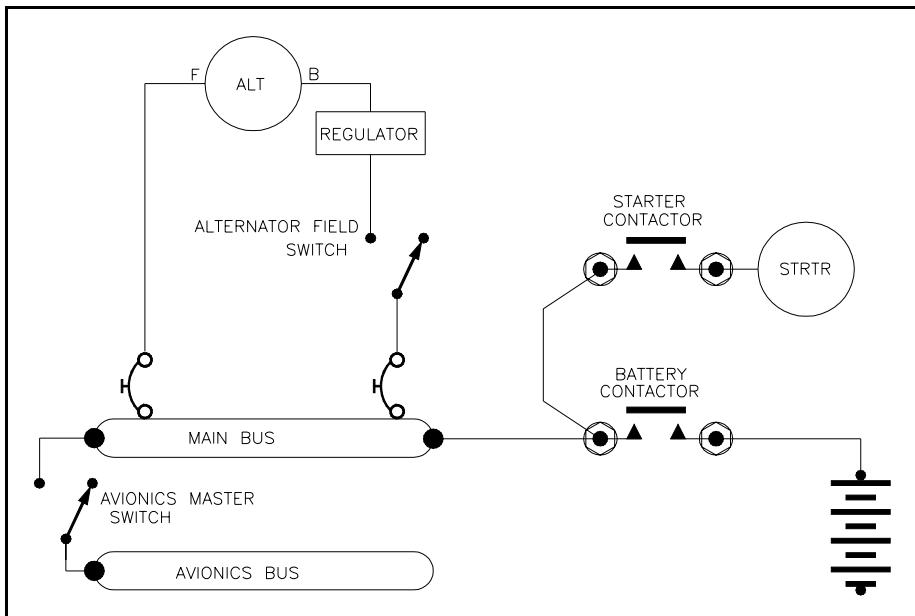
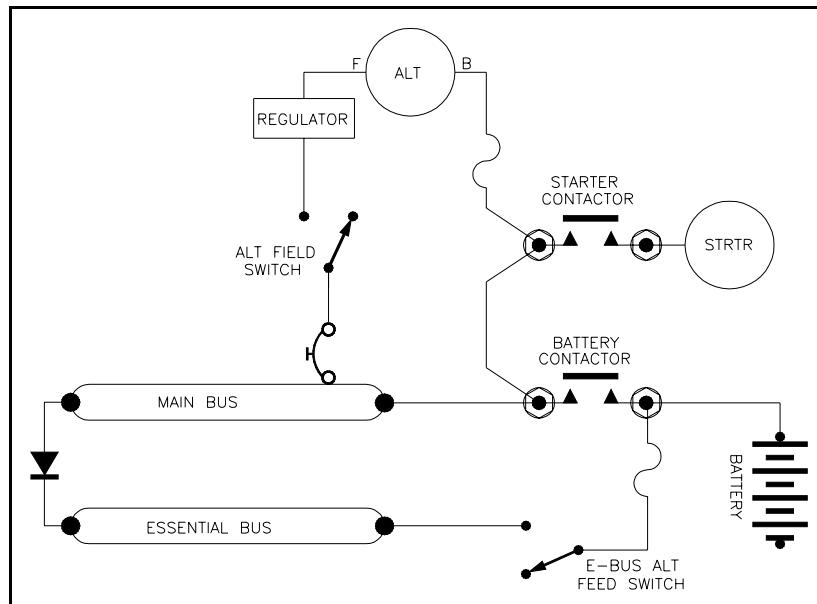
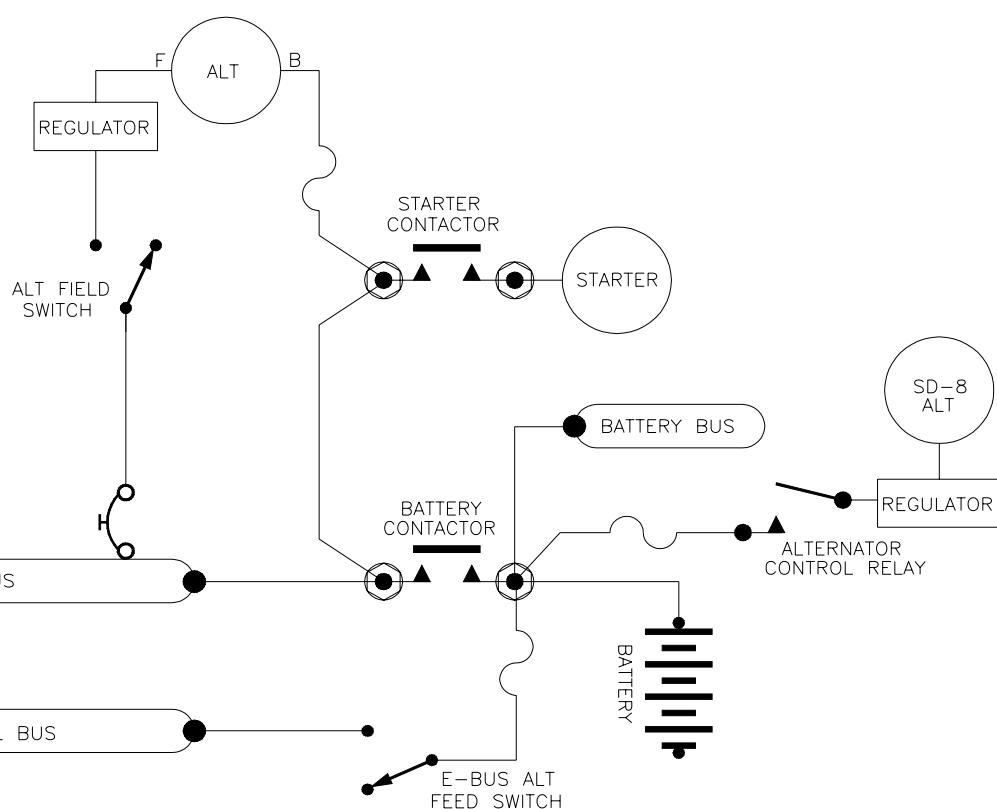
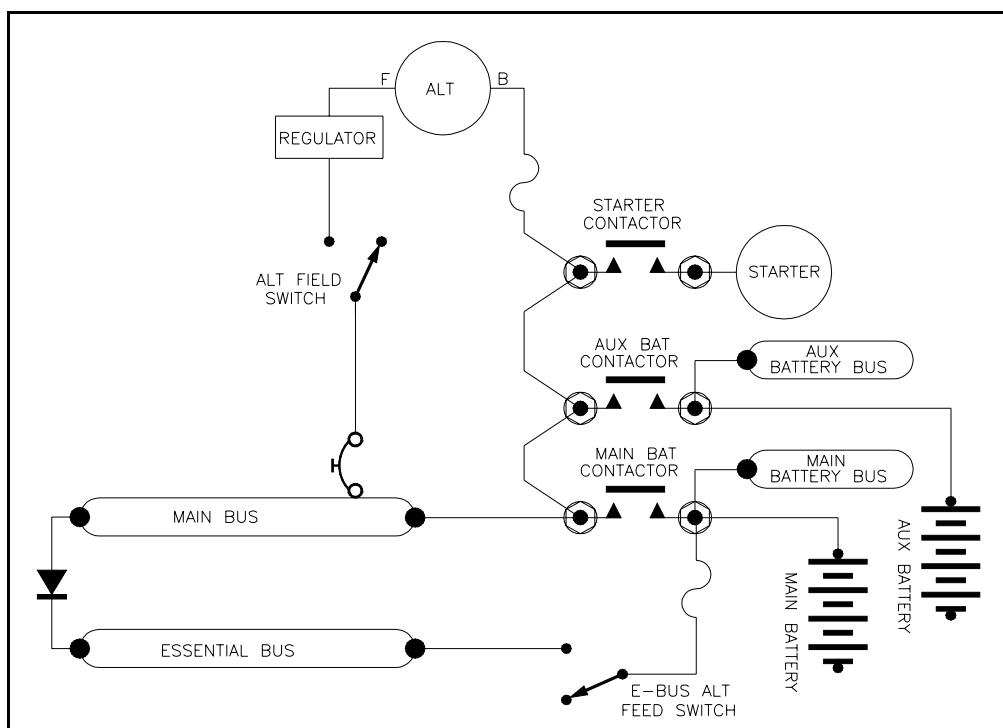

Figure 17-1. Rudimentary Single Battery, Single Alternator Power Distribution System.
Figure 17-2. Single Battery, Single Alternator System with Dual Feed Essential Bus.
Figure 17-4. Adding the SD-8 Auxiliary Alternator
Figure 17-6. Dual Battery Installation
Figure 17-1 illustrates the factory wired configuration for pilot Gomez's Cessna 172RG. Noteworthy points to ponder include the traditional practice of routing the alternator's power output lead (often called the B-lead) directly to the main bus inside the cockpit. There was probably an avionics bus with a single power feed through an "Avionics Master" switch. This particular theme for power distribution has been standard on single engine aircraft since the mid 60's. Had pilot Gomez's airplane been wired a bit differently, the course of his experience could have been much different.
Figure 17-2 makes three important modifications over the system described above. First, the alternator B-lead is tied into the power distribution system on the firewall using an in-line fuse instead of a circuit breaker. This change provides for a much lower resistance path between the alternator (the noisiest device in the electrical system) and the battery (the best filter in the electrical system). An important feature of this change is to size the alternator's B-lead fuse such that nuisance blowing is not going to happen. Most certified airplanes with 60A alternators also have 60A breakers in their B-lead feeds. Under certain but not uncommon conditions, a 60A alternator's output can exceed its rated value and trip the breaker. Tens of thousands of certified aircraft have an alternator breaker **designed to nuisance-trip**. The B-lead breaker recommended for a 60A alternator is not less than 70A. A B-lead fuse should be 80A.
The most important feature in Figure 17-2 is the alternate power feed path between the battery and the essential bus. This power pathway supplies essential bus accessories even if the main bus has been shut down. Further, it's independent of the battery contactor. If you're in an alternator-out mode and need to conserve battery energy, then the approximately 1 Amp draw needed to keep the contactor closed is eliminated. A battery contactor draws more power than 2 navigation radios!
Figure 17-4 suggests a way to incorporate the SD-8 into a two alternator, single battery electrical system with an excellent reliability analysis. Recall earlier when we were adding up lights, radios and instruments to deduce the E-bus
loads? If you're considering electrically dependent ignition or fuel delivery systems, battery support of electrical loads during alternator-out operations may require an unpractically large battery. In these cases, a second alternator is the solution. The architecture described in Figure 17-4 is the easiest way to make it happen.
There are two important variations on a theme I'd like to discuss now. First, one may consider adding a second battery to the architecture of Figures 17-2, 17-3. One could add a second battery to Figure 17-4 but the value of doing so will be overshadowed by the second engine driven energy source.
Figure 17-6 illustrates the methodology for adding a
Now it's time to apply what we know to select an electrical system that fits your airplane and the way you intend to use it. Figure 17-1 illustrates the way 95% of all production single engine airplanes are wired. I've suggested that pilot Gomez's story would have read much differently had his airplane been wired differently. The majority of our builders will find the architecture in Figure 17-2 adequate to their needs. If pilot Gomez's airplane had received the simple modification to provide minimal lighting, primary navigation and rudimentary flight instrument power from an alternate feed to the battery, his story would have not be very exciting. Turn the essential bus alternate feed switch ON, battery/alternator master switch OFF and continue flying the airplane to a comfortable arrival. Of course, we're assuming that the FBO who rented the airplane replaces batteries in their rental fleet when their capacity drops below useful levels . . . yeah, right.
The architecture of Figure 17-2 lends itself to orderly upgrade to either a second battery (Figure 17-6) or an aux alternator (Figures 17-4 and 17-8). The compelling reason for upgrading to dual batteries is when both magnetos have been replaced with electronic ignition systems. If you don't plan to have a vacuum system and want dual electronic ignition, then putting an auxiliary alternator on the vacuum pump pad makes the most sense and you can stay with a single battery. B&C alternators have demonstrated fleet failure rates better than 0.5 per 100,000 flight hours . . . an 8-amp auxiliary alternator is about 5x the price of an 17 a.h. auxiliary battery but it's 1/4 the weight.
- 99% of single engine airplanes are wired per Figure 17-1, I've illustrated numerous options to improve upon certified aviation's carved-in-stone shortcomings. Do some considered planning on the architecture that best fits your needs. Further, take comfort in knowing that should your needs change or you find that the first pass at a design falls short of your needs, you can FIX IT with a more useful configuration without having to seek blessings from ANYONE..